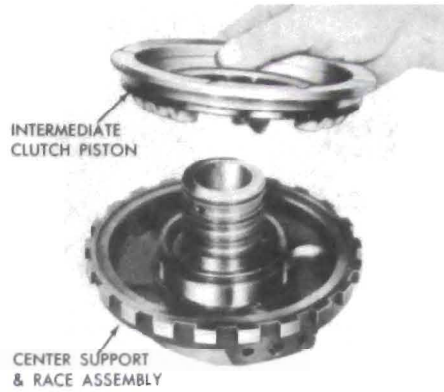

Figure 76-710
4. Remove the intermediate clutch piston. See Figure 76-710.